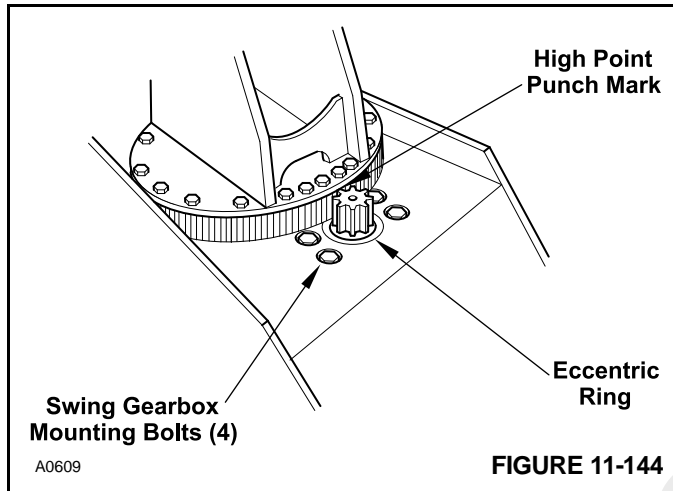

FIGURE 11-144
1. Slightly loosen the four capscrews securing the swing gearbox (Figure 11-144).